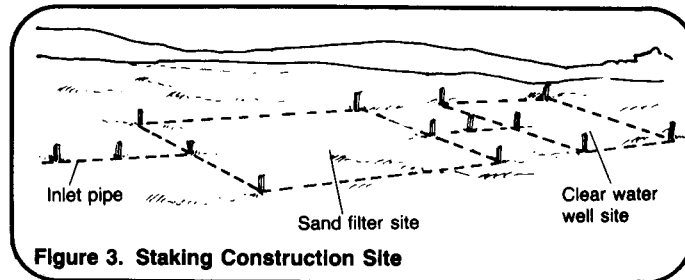

Figure 3. Staking Construction Site
1. Begin marking out the site of the filter with stakes and rope. Mark out the length and width of the filter and the trenches planned for the inlet and outlet pipes. The entire area should be staked as in Figure 3 before construction begins.